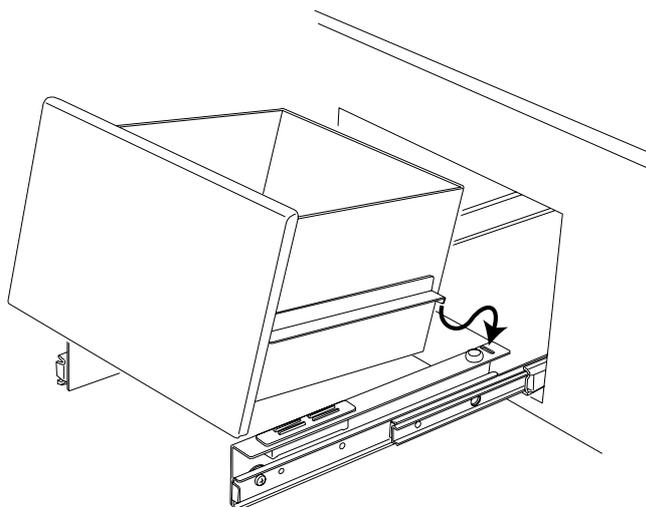

Fig. 7.4-1 : Waste tip drawer
- (1) Place the waste tip container in the Waste tip drawer.
- (2) Set the Waste tip drawer in the N.S.P. system (Fig. 7.4-1).